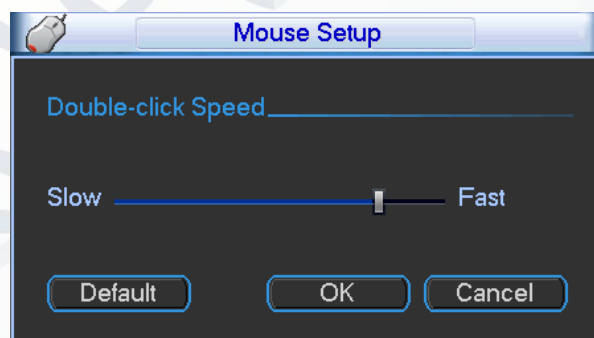

Figure 5-23
- **Mouse property:** By Clicking the mouse setup button the mouse setup interface will appear (See Figure 5-23). You can set double click speed via dragging the slide bard. You can Click Default button to restore default setup.